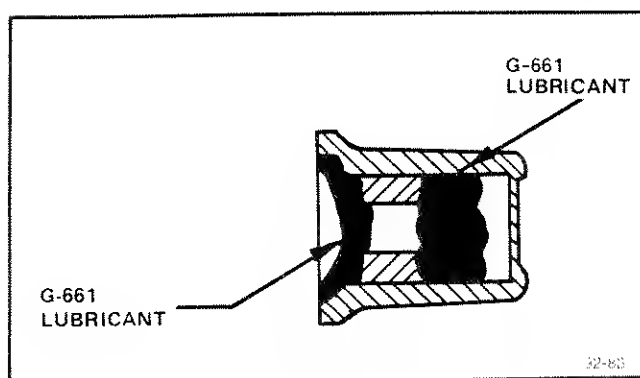

Fig. 5-30. Lubrication of POSITION control knob.
27. Installation of the POSITION knob and the FINE POSITION knob (see Figs. 5-30 and 5-31)
1. Apply G-661 lubricant to the POSITION knob as shown in Fig. 5-30.